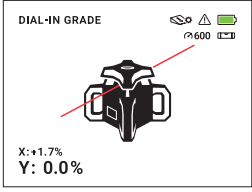

Fig.16
- Press the **X/Y selection button** on the remote control to confirm the grade and switch to the Y-axis (Fig.16).